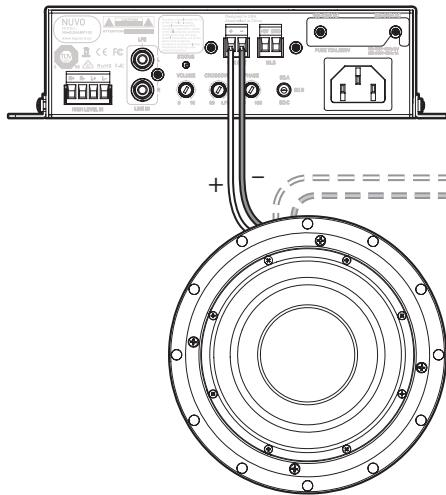

Fig. 9
b. **Use a high-level in connection (for NV-SUBAMP100-xx models) See Figure 9:**